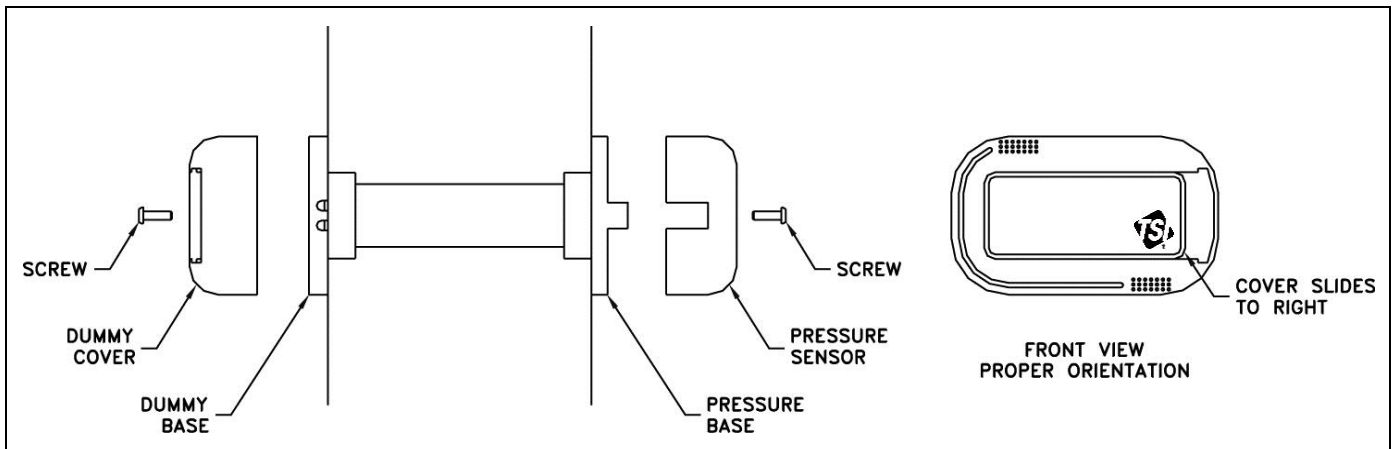

Figure 6: Pressure Sensor Mounting
7. From the side of the wall the sensor will be mounted, slide the sensor tube through the wall. Slide the dummy base over the end of the tube. Screw the pressure sensor base and dummy base to the wall (Figure 6).
10. Install and screw the pressure sensor and dummy cover onto the bases. Slide covers to the left to hide the sensor. Finished installation should look as shown in Figure 6.